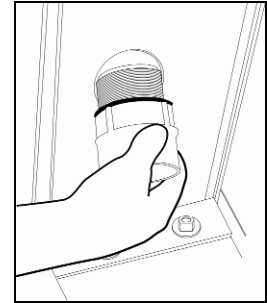

Figure 16: PVC Coupler
1. Attach the PVC coupler provided with the subsequent section(s) to the lower opening between sections. Refer to **Figure 16** for an example.